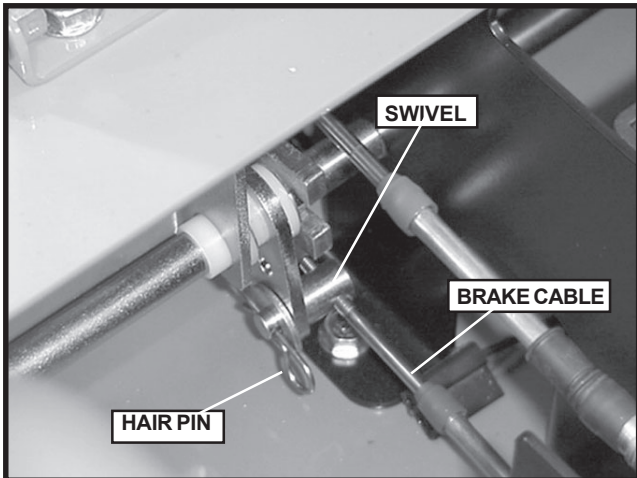

FIGURE 21
- The 1/4" gap can be adjusted with the brake swivel (located under the seat), pull pin and rotate swivel one turn counterclockwise to increase gap or clockwise to decrease the gap until the 1/4" gap is attained. See Fig. 21.